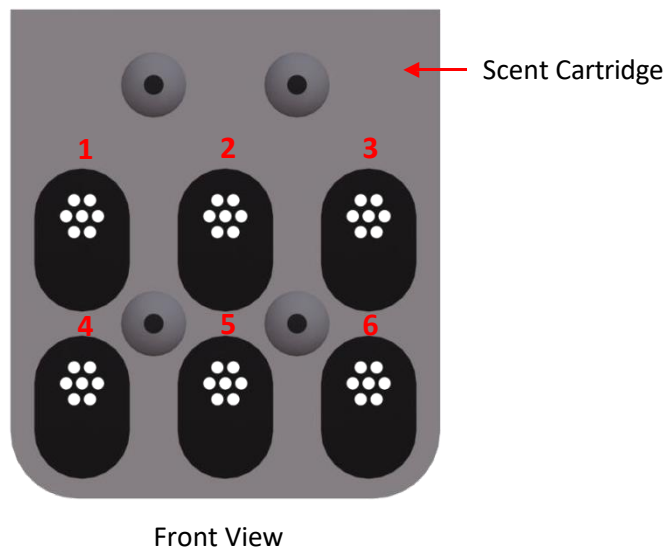

Figure 4: Scent cartridge features (front view)
- Each Scent Cartridge has 6-channels which are numbered sequentially, as shown in Figure 4.